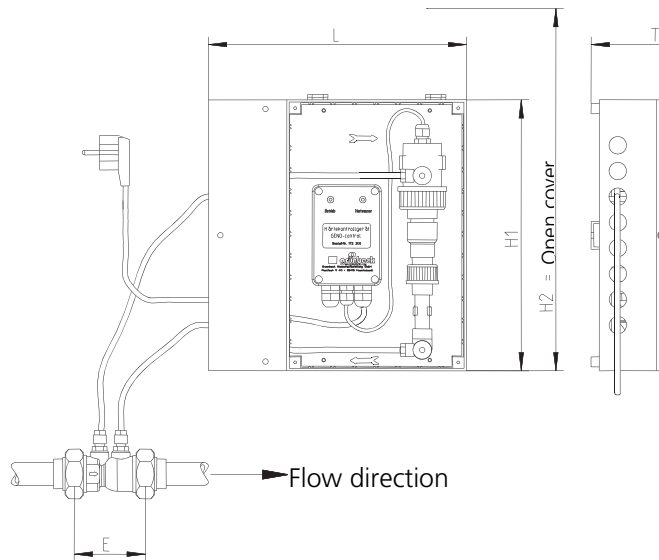

Fig. 1.1: GENO®-control installation diagram dimension drawing
- Connect hoses as shown in drawing (refer to fig.: 1.1).